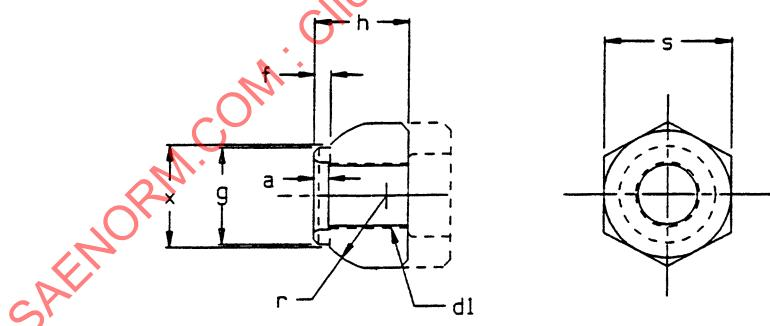

FIGURE 10—SINGLE OR OUTER DUAL BALL SEAT NUT FOR ALUMINUM WHEELS
6.3.2.3 Single or Outer Dual Ball Seat Nut for Aluminum Wheels (BSN-AL)—Reference Figure 10 and Table 12.